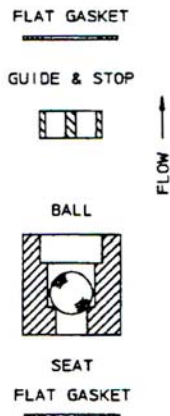

FIGURE 8
4.4 Check Valves (Figure 8, 9, 10 & 11)